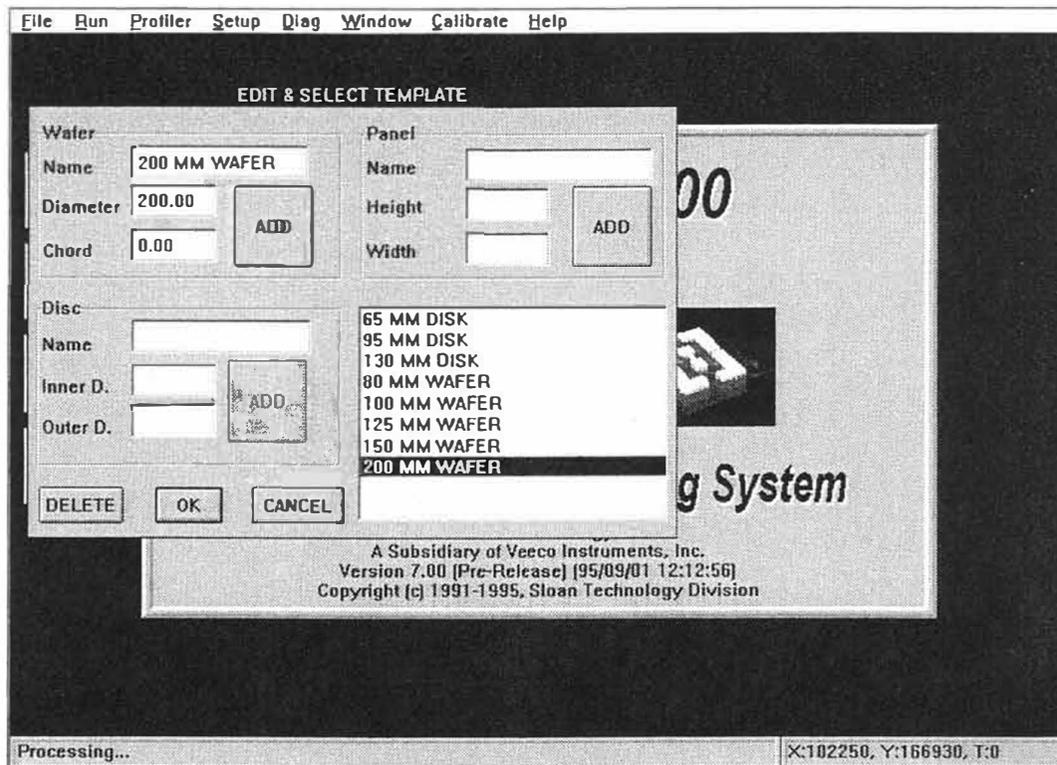

Figure 3-5. Edit & Select Wafer Template Dialog Box
2. Click-on "Wafer Template" from the Setup Menu. A dialog box will be displayed allowing selection and editing of various wafer templates (see Figure 3-5).